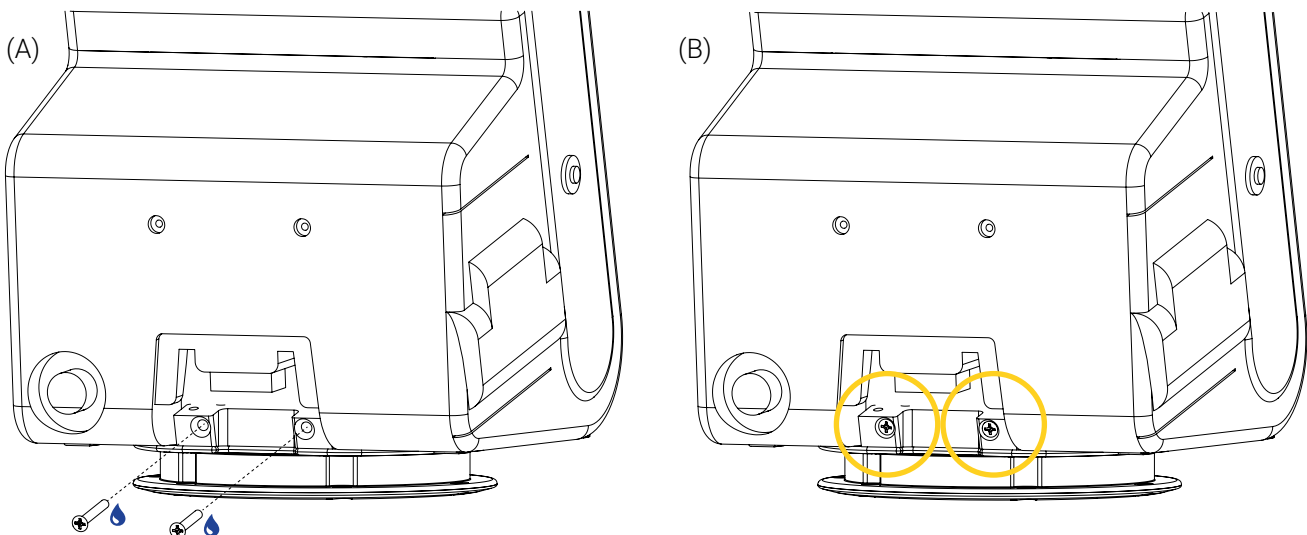

Figure 14: Securing the medical device on the support bracket
- Insert the two (2) M4 X 25 mm x 0.7 mm flat head Phillips screws in the screw holes of the rear mounting block, then tighten using thread lock adhesive and a Phillips screwdriver (Figure 14).